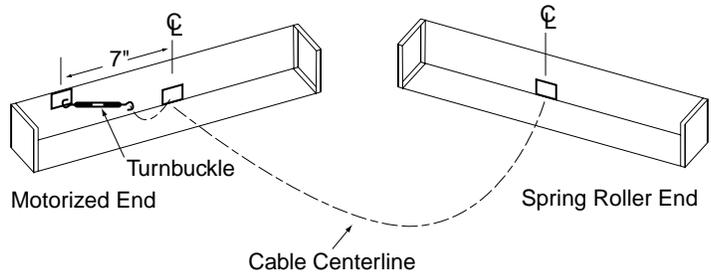

Figure 9
- ① Make sure Skylight unit is square.
- ② Fasten cable support plates to structure through outboard holes in plate (see Fig. 9). If #10 x 1 1/2" screws provided are not adequate, installer will need to provide fasteners appropriate to site conditions.
- ③ Attach loop at one end of cable to hook on cable attachment plate at spring roller headbox. Run cable the full length of the opening, and through the hole at the lower plate in the motor end headbox.
- ④ Attach remaining cable loop to turnbuckle, which in turn attaches to upper cable attachment plate in motor end headbox.
- ⑤ Tension cable by tightening turnbuckle until cable is straight. **NOTE: Do not overtighten, but make sure cable is as taut as possible.**